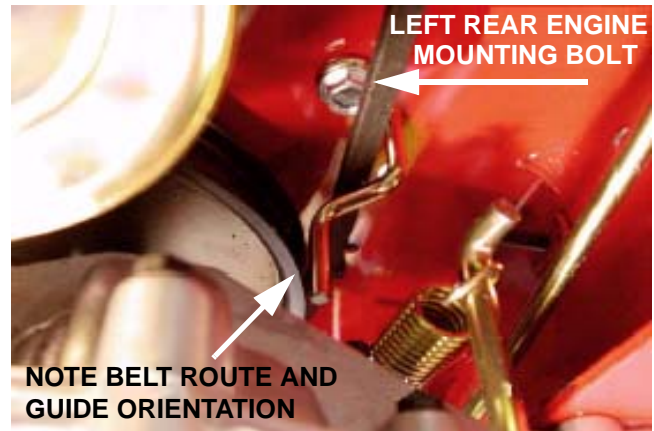

FIGURE 8
10. Install Belt Guide, Item 7, using new Hex Head Screw, Item 1. Align the Belt Guide so that the V belt is on the inside and on top of the guide. See Figure 8.
NOTE: Make sure that the V belt does not drag on the Belt Guide when drive is engaged and that the lower portion of the Belt Guide is at least 1/8 inch away from the pulley. See Figure 8.